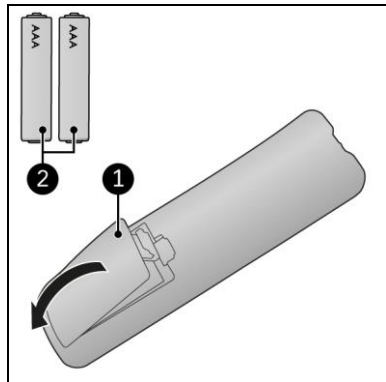

Figure 11
1. Remove the cover (Figure 11, pos. 1).
3. Insert two batteries (AAA 1.5 V) (Figure 11, pos. 2) as indicated in the battery compartment. Make sure to insert the batteries correctly.
5. Remove the batteries from the remote control (Figure 11).